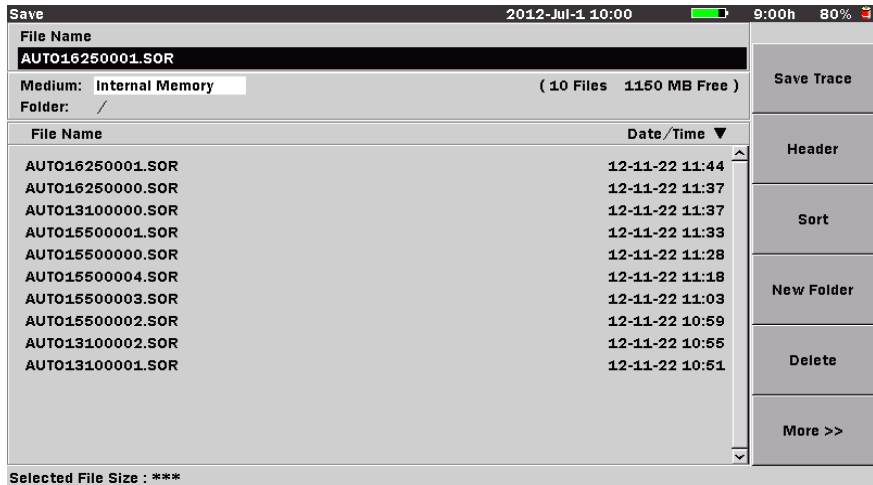

Figure 5-24: Save Screen
1. At the completion of a Fault Locate test, press the **Save key**. The Save screen appears (see Figure 5-24 on page 5-65).
Use the Save screen (see Figure 5-24 on page 5-65) to copy data files stored in the internal memory or on a USB memory stick. You can copy a single file, multiple files or all of the files in the current directory.
1. At the completion of a test, press the **Save key**. The Save screen (see Figure 5-24) appears with the File Name field highlighted.
1. At the completion of a test, press the **Save key**. The Save screen appears (see Figure 5-24 on page 5-65).